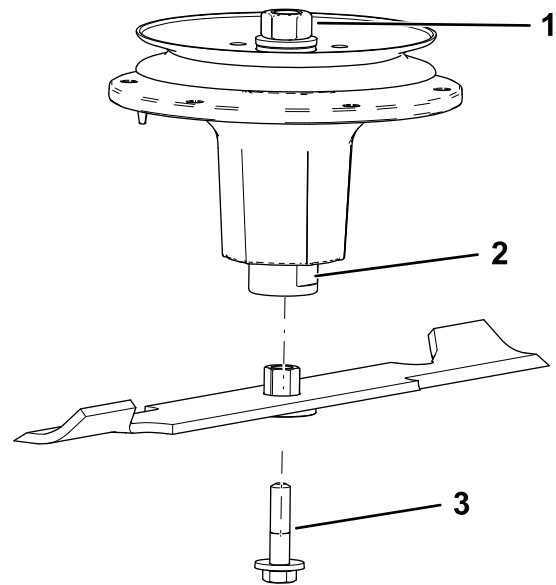

Figure 77
2. Install the bushing/blade assembly into the spindle shaft (Figure 77).